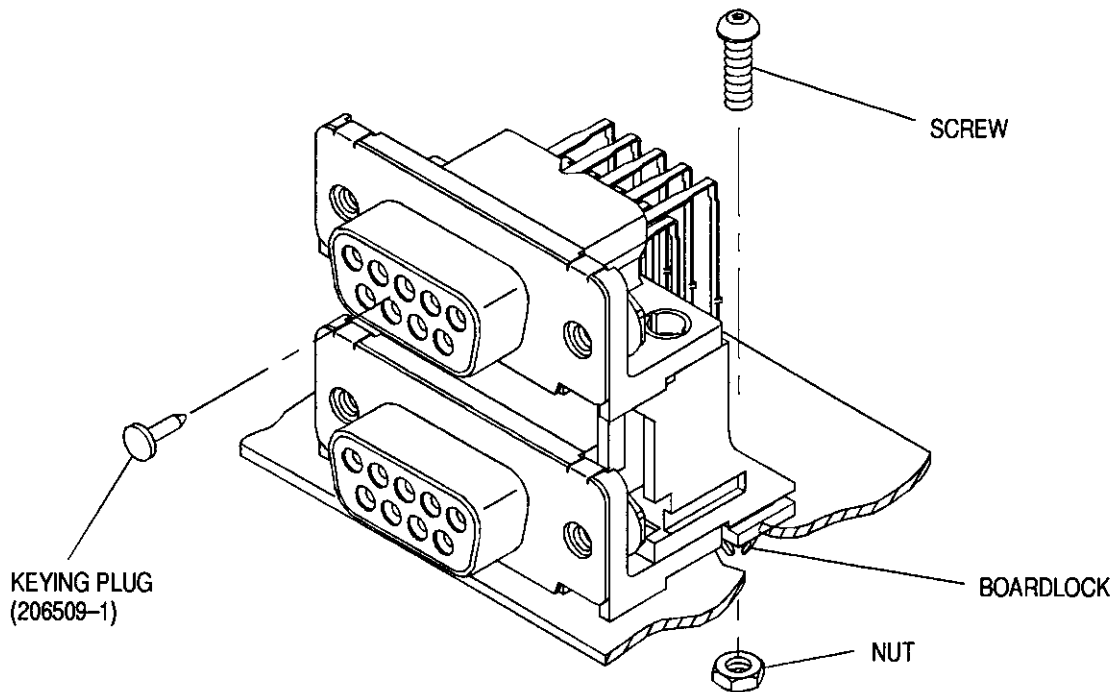

Figure 6
The keystone mating face of the connectors prevents accidental inversion of mating connectors. To prevent mismating of identical connectors used in close proximity of each other, keying plugs may be placed in the upper connector. See Figure 6.
3.9. PC Board Mounting Hardware (Figure 6)